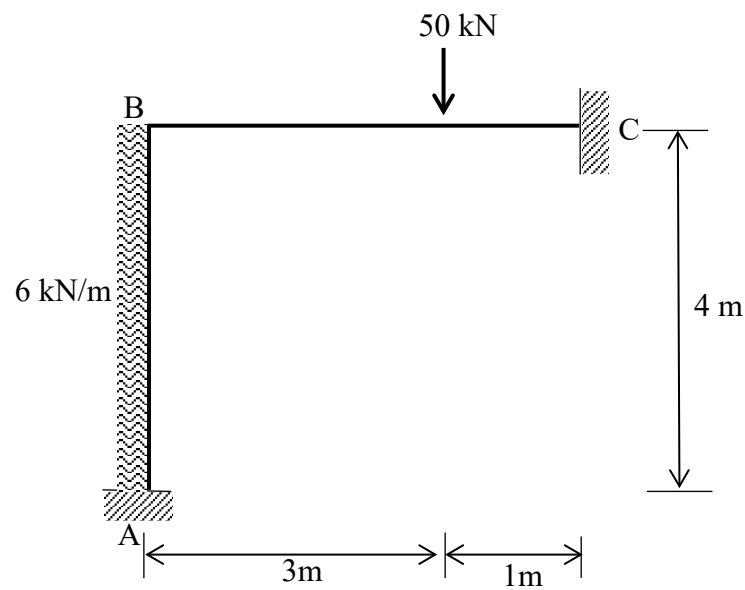

Figure B4 / *Rajah B4*
The portal frame shown in Figure B4 is a non-swaying portal frame. A frame is fixed at A and C carries a uniformly distribution load and point load.
- CLO1 (b) Identify the value of fixed end moment for portal frame in Figure B4.